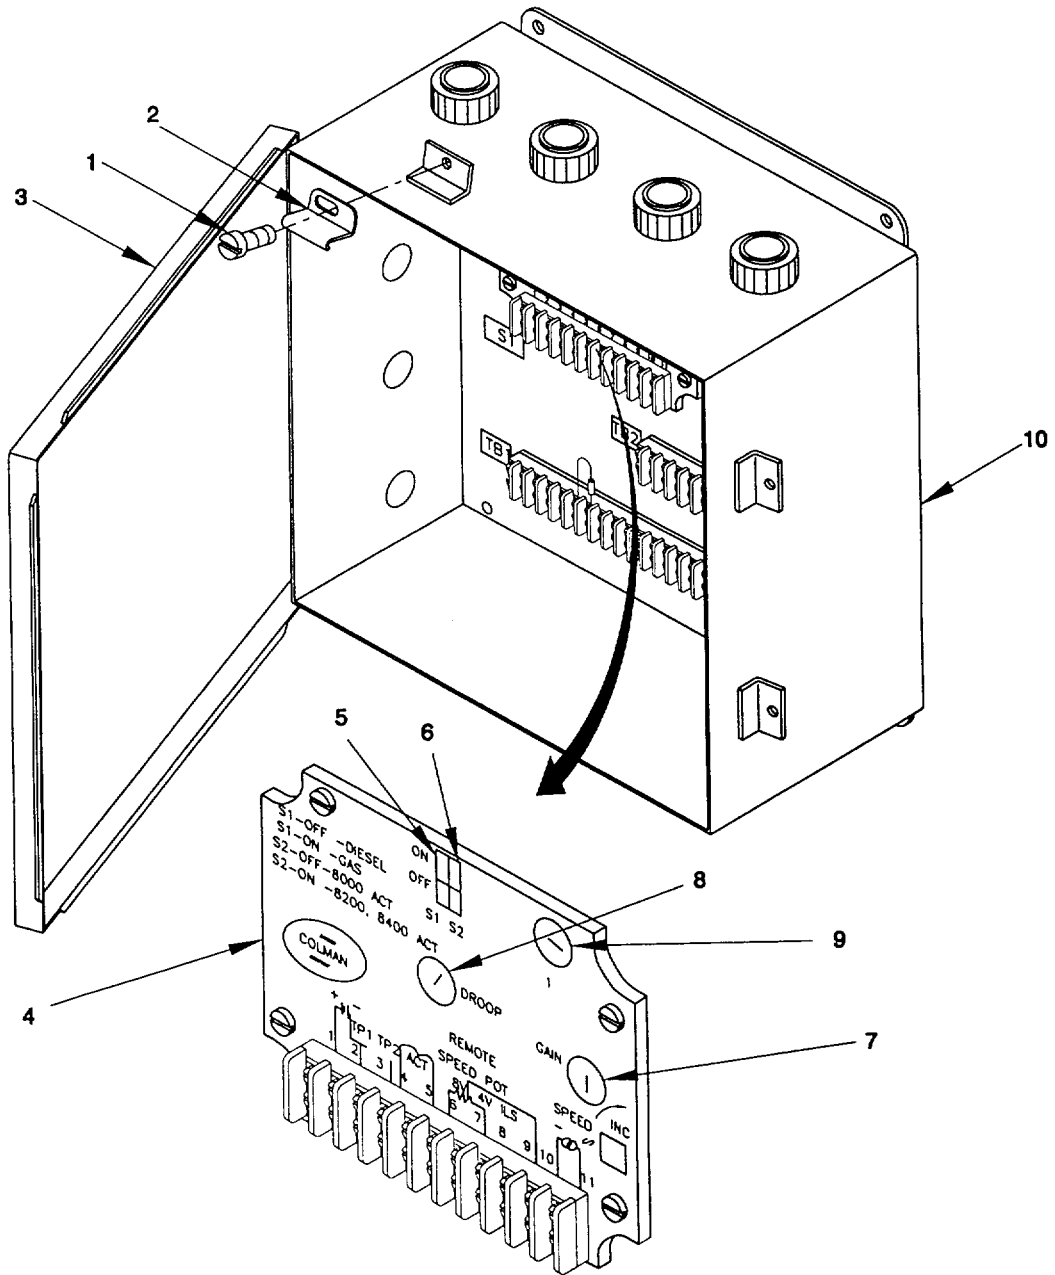

Figure 3-6. Governor Controller, Engine Junction Box "A4", Adjust.
- a. *Adjust.* (figure 3-6)
- (1) Disconnect and tag OUT OF SERVICE the electrical system.
- (2) Remove six screws (1) and six clamps (2) securing cover (3) to enclosure (10). Swing cover (3) open.
- (3) Disconnect and tag electrical wiring to governor controller (4). Refer to Appendix G.
- (4) Set governor switches to the following positions:
- (a) Switch S1 (5) in OFF position.
- (b) Switch S2 (6) in ON position.
- (5) Adjust positions of "GAIN", "DROOP", and "I" indicators (7, 8, and 9) on controller (4) to those shown in figure 3-6:
- (a) "GAIN" (7) should be in the 40% to 50% position.
- (b) "DROOP" (8) should be in the "full counterclockwise" position.
- (c) "I" (9) should be in the 30% position.
- (6) Connect electrical wiring to governor controller (4) as previously tagged.
- (7) Close cover (3), position six clamps (2) and secure with six screws (1).
- (8) Connect electrical system and remove OUT OF SERVICE tags.
- (9) Start the engine. It should be operating at 800 RPM.
- b. Remove. (figure 3-6).
- (14) Remove key (42) from control lever shaft on engine, freeing control lever (12) from shaft. Collect ring (43), washer (44), washer (45), seal (46), and bushing (47). Remove bolt (48) and lockwasher (49) from control lever.
- (15) Remove pin (50) and shaft assembly (51).
- (16) Remove tube (52).
- (17) Magnetic pickup assembly (53) may be removed as required.
- c. Install. (figure 3-6).
- (1) Install magnetic pickup assembly (53).
- (2) Replace tube (52).